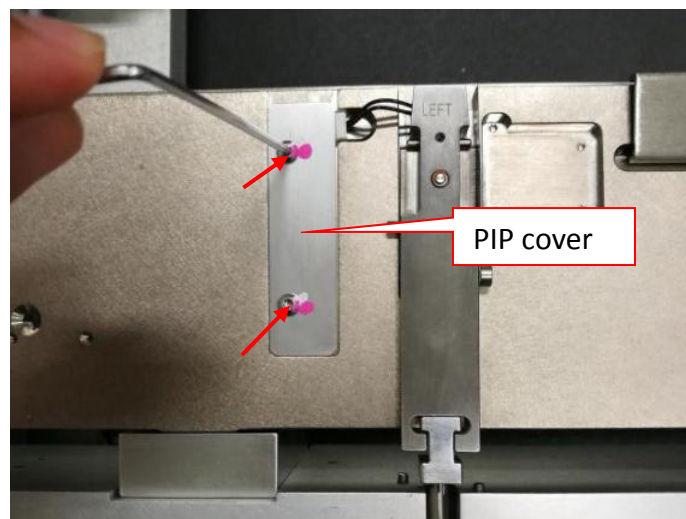

Figure 11 PIP Cover Assembly
4. Assemble PIP Cover & tighten 2 x Screws (M3 x 8) as shown in Figure 11.